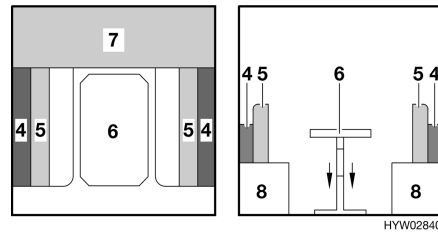

Fig. 36 During conversion
- Convert the table (Fig. 36,3) to a bed foundation (see section 7.7).